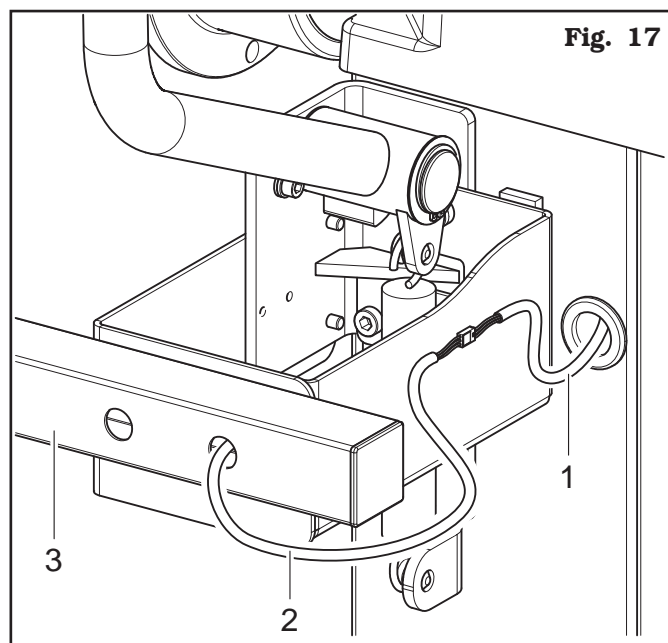

Fig. 17
4. Connect connector (**Fig. 17 ref. 1**) of the cable coming from inside the machine to connector (**Fig. 17 ref. 2**) of the cable coming from the gauge arm. Fit the section of the cable with the connectors inside the arm (**Fig. 17 ref. 3**).